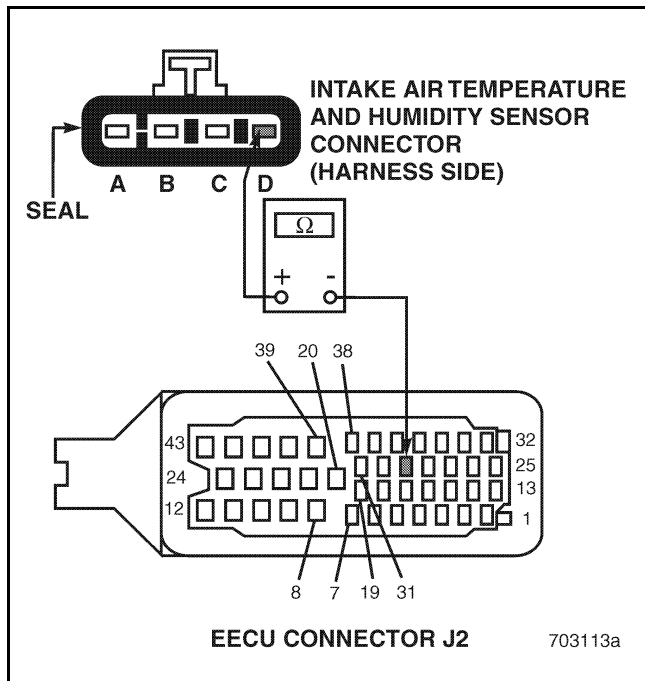

Figure 298
4. Check for continuity between pin D of the IATH Sensor harness connector and EECU harness connector J2 pin 29 (see Figure 298).